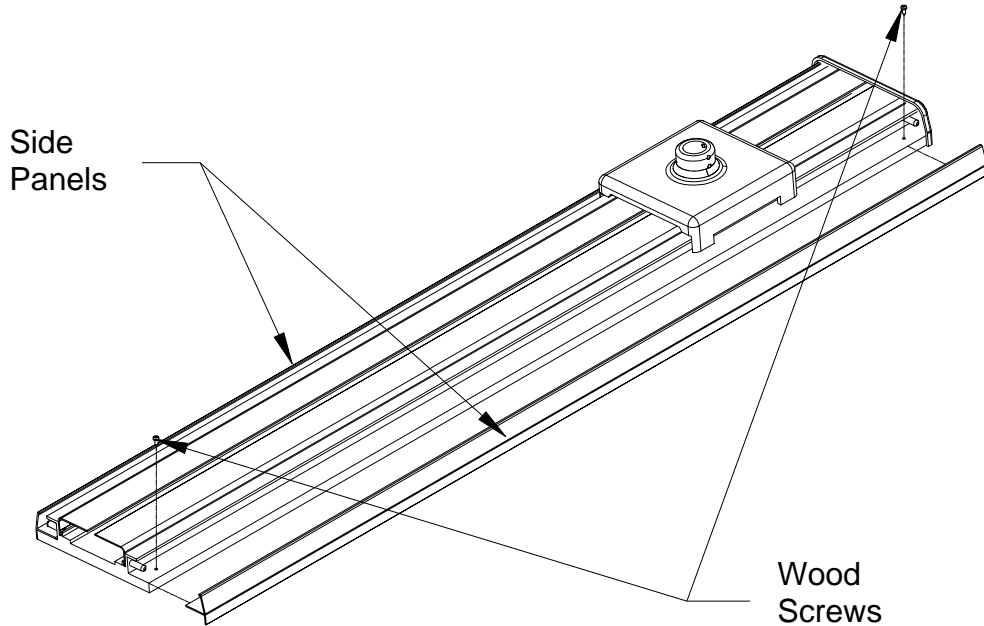

FIGURE 23: Side Panel Removal
- Take off the two side panels P/N 1001516 by removing the two (2) #10 wood screws at the end of each panel. See figure 23.